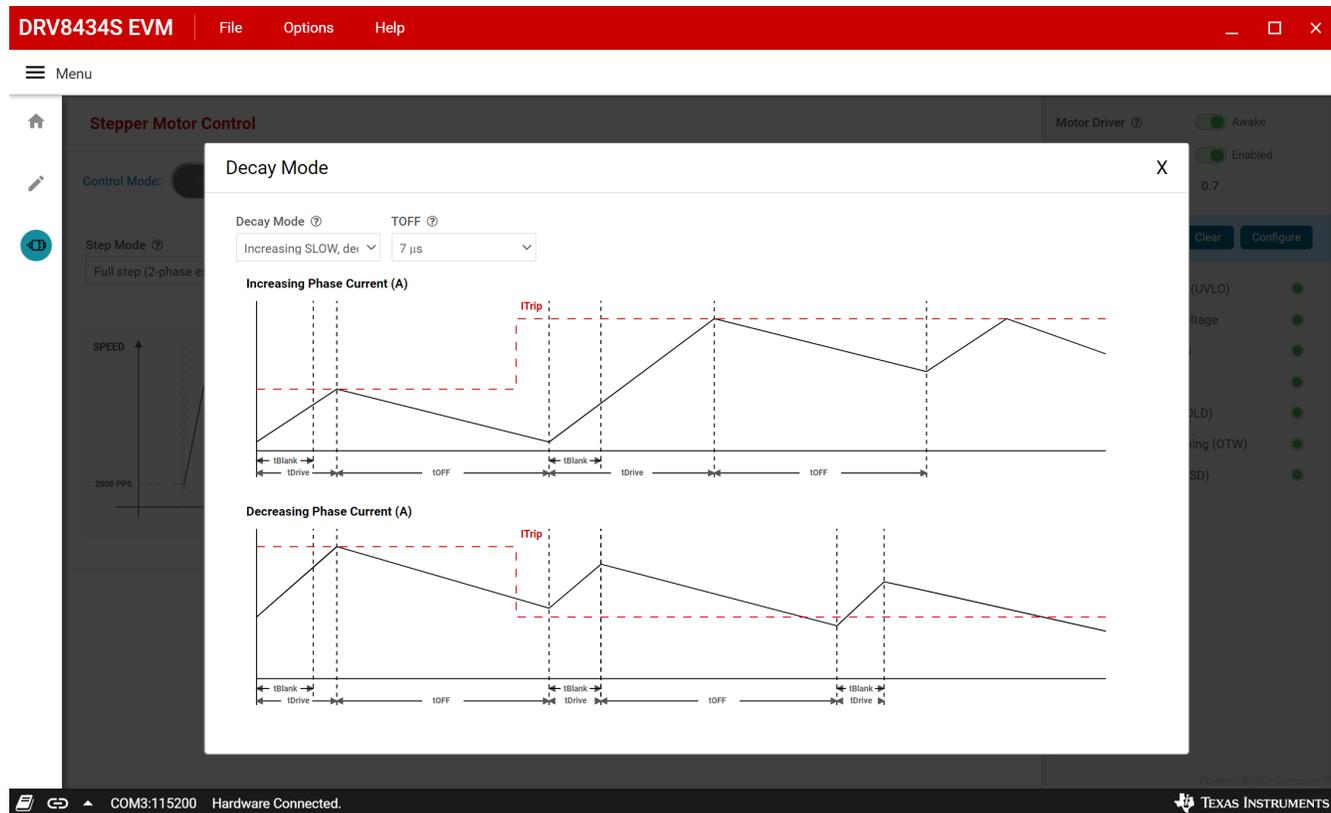

Figure 4-9. DRV8434S EVM GUI (Decay mode)
- Click the Decay Mode button at the top center-right of the GUI. A popup appears as shown below in the Figure 4-9.